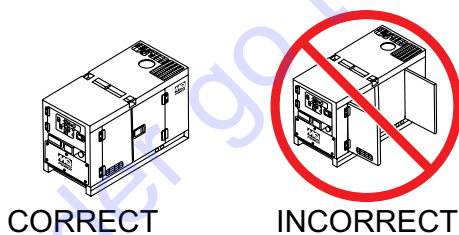

Figure 27. Engine Enclosure Doors
3. Close all engine enclosure doors (Figure 27).